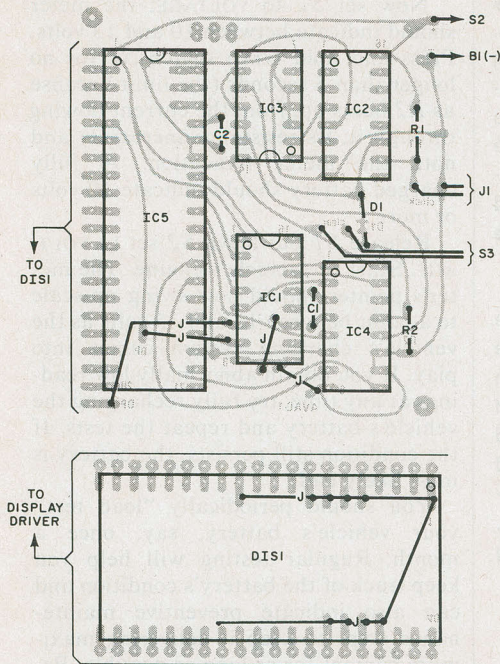
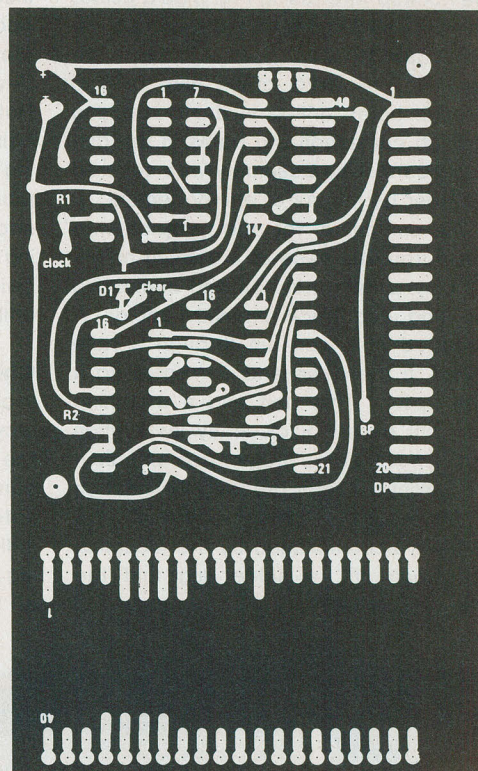

Fig. 2. Full-size etching and drilling guide for a suitable printed circuit board is at left.
Fig. 3. Component layout for the printed circuit board is at right.
**Construction.** The use of a printed circuit board is recommended because it results in a compact, rugged assembly. A full-size etching and drilling guide for a suitable board is shown in Fig. 2. The corresponding component placement guide is shown in Fig. 3. This board calls
ble hookup wire (using Fig. 3 as a guide) and was stacked above the printed circuit board by two slender rods made from No. 16 AWG brass wire running through holes drilled in the board and through corresponding holes in the display board. This assembly was secured together by means of epoxy cement.